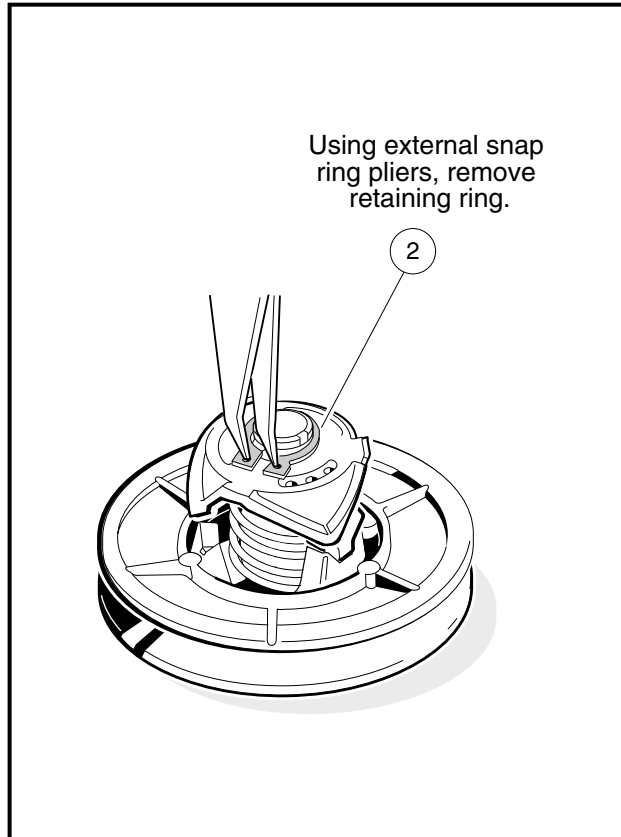

Figure 17-17 Remove Retaining Ring
1. Using external snap ring pliers, remove the retaining ring (2) (**Figure 17-17, Page 17-16**). **See following WARNING.**